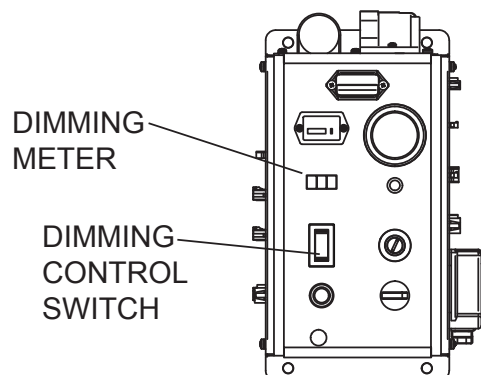

Figure 22. Dimming the Lamps
1. Press the lower part of the dimming control switch to dim the lamps. The lamps can be dimmed from 100% to 40% brightness. The dimming meter will indicate how dim the lamps are (Figure 22).